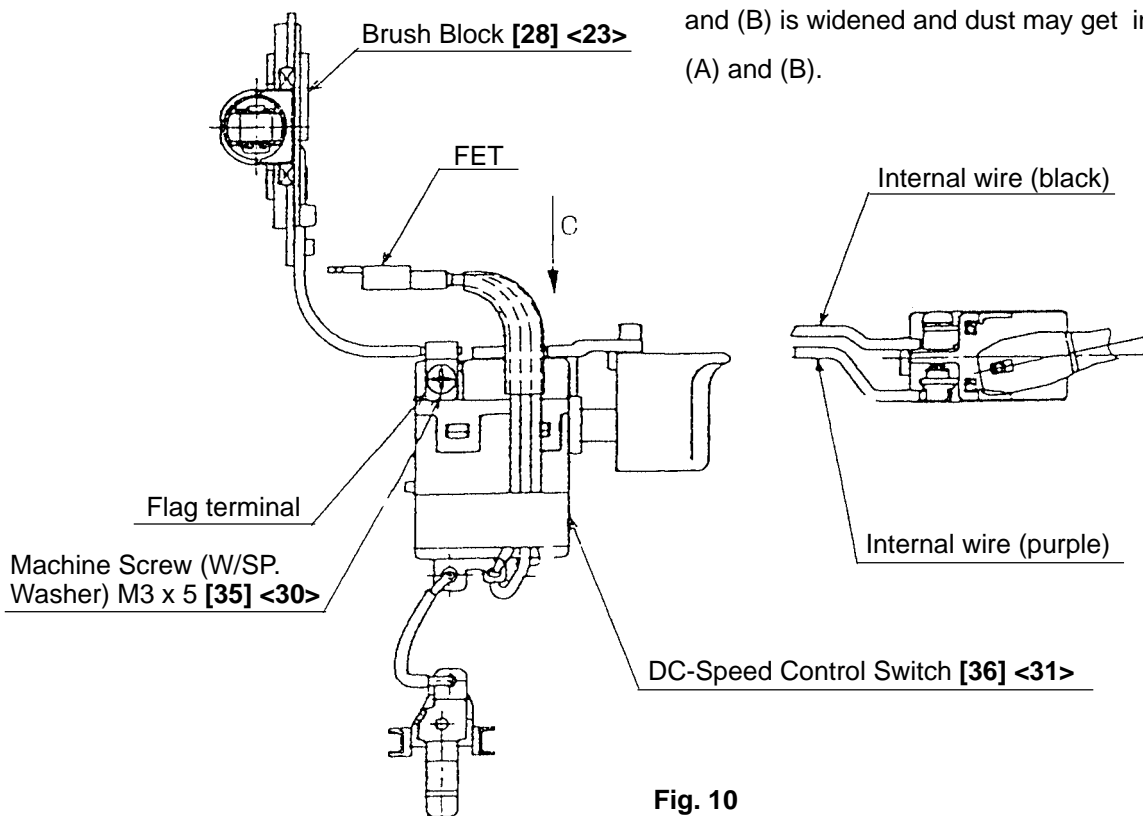

Fig. 10
(1) Reassembly of the housing assembly
- (a) Be sure to follow the wiring diagram (Fig. 10) for proper wiring.
- (b) When connecting the internal wires of the Brush Block [28] <23> to the DC-Speed Control Switch [36] <31>, fasten them with the Machine Screw (W/SP. Washer) M3 x 5 [35] <30> paying attention to the direction of the flag terminal (Fig. 10).
**(Note)** If the flag terminal is mounted in wrong direction, the flag terminal may be damaged due to contact with the housing. In addition, the gap between the housings (A) and (B) is widened and dust may get into the housings (A) and (B).